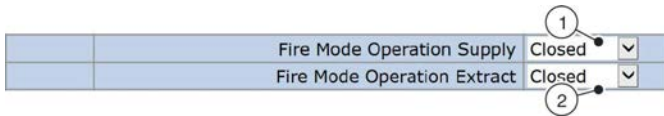

Fig. 56: Settings for fire mode operation
- Select a setting for the supply air from the drop down list (Fig. 56 /1): either 'Max. air' or 'Closed'.
- Select a setting for the extract air from the drop down list (Fig. 56 /2): either 'Max. air' or 'Closed'.